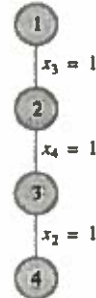

FIGURE 26
- Part of the tree looks like Figure 26.